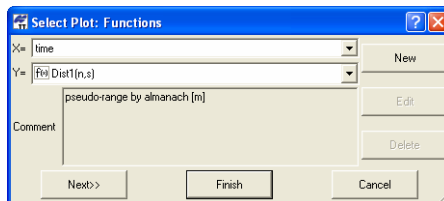

Figure 11-25. Select Plot Dialog Box
The *Select Plot* dialog box displays on the screen (Figure 11-25).
- activate the *Select Plot: Function* dialog box and add any plot to this dialog box (this command is identical to the *RawData Plot* in the pop-up menu of the *GPS Occupations* tab/ *Occupation View* (see Figure 11-25 on page 11-20). For example: the picture below